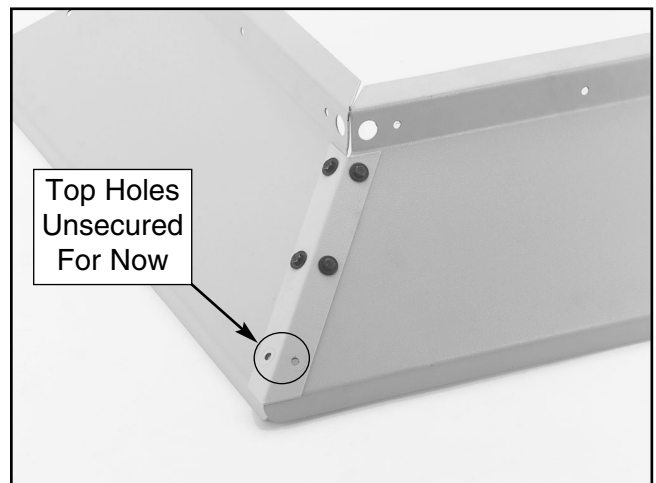

Figure 15. Side skewed wall partially attached to the rear skewed wall with an angle bracket.
- Attach one of the side skewed walls to one of the front/rear skewed walls by placing an angle bracket over the holes and securing the bottom two holes together with 4 hex bolts, 8 flat washers, and 4 hex nuts, as shown in **Figure 15**. Note—*DO NOT secure the top holes of the angle brackets, because they will be used later.*